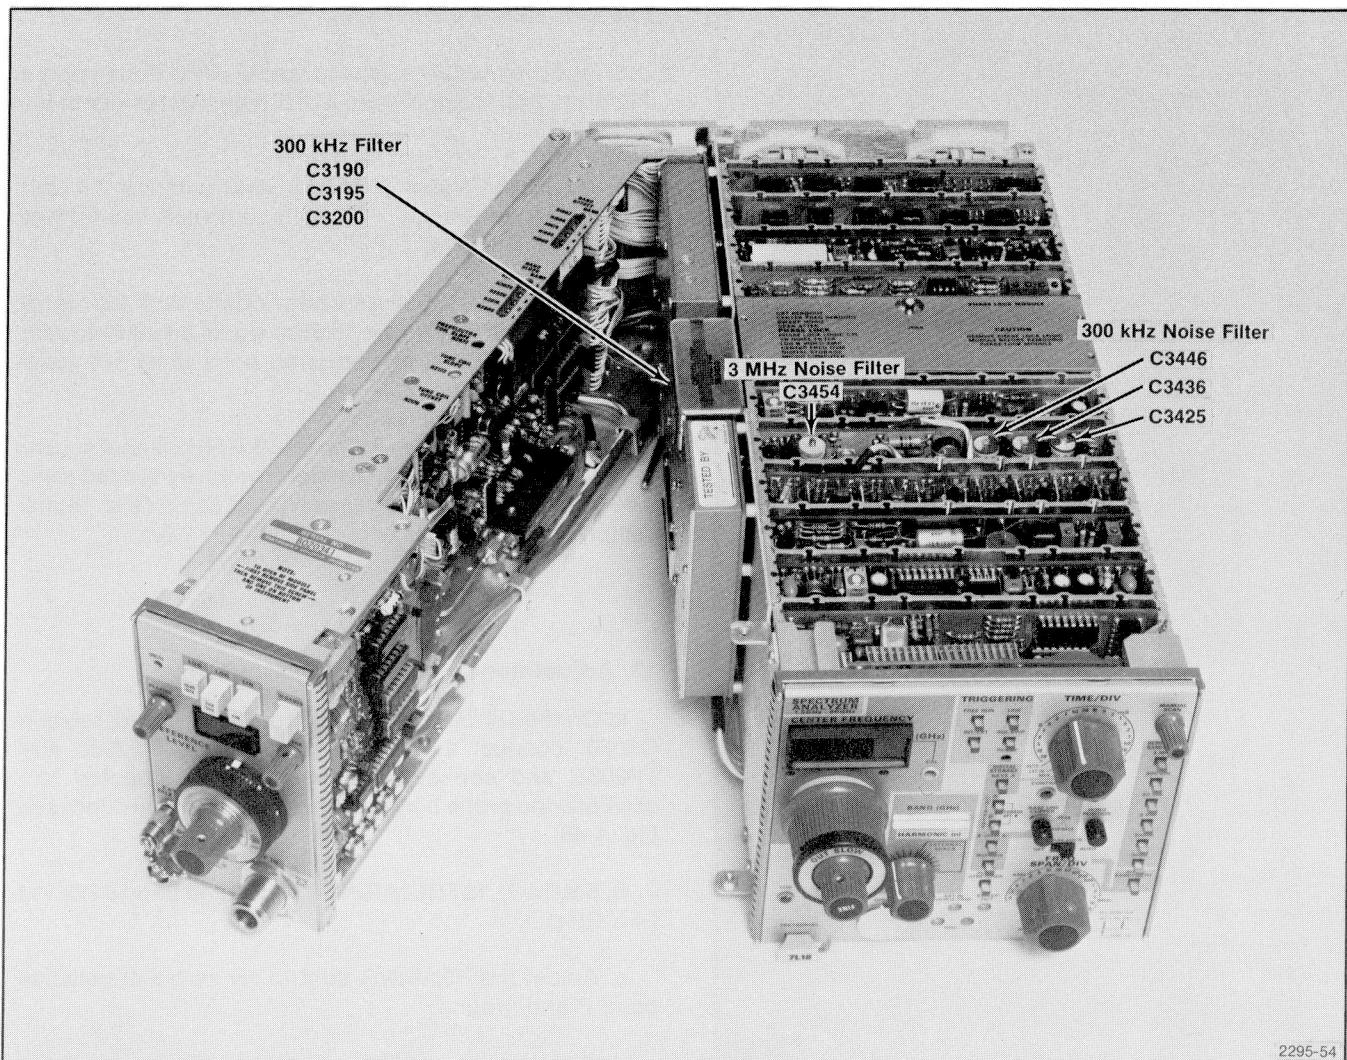

Fig. 4-46. Adjustments for 300 kHz Filter, 300 kHz Noise Filter, and 3 MHz Noise Filter.
- d. Adjust the 300 kHz filter and the 300 kHz Noise Filter with C3190, C3195, C3200, C3425, C3436, and C3446 (see Fig. 4-46) for the best amplitude, symmetry, and shape around the 3 kHz reference center frequency.